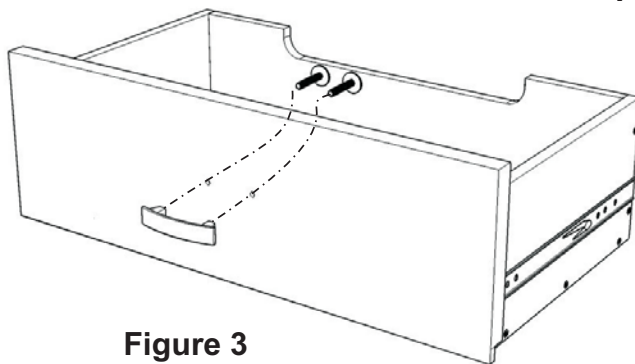

Figure 3
(Figure 3)
Attach Doors (N) and (O) by sliding the door lift hinges into the side panels lift hinges. (See figure 3)
Assemble Pull Handle with machine screws. (see Figure 3)